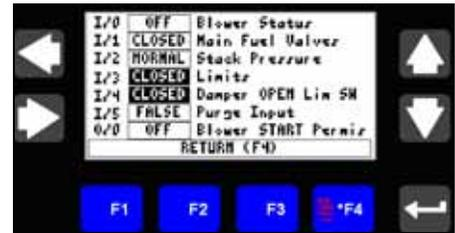

Figure 3-20 Monitor I/O Screen
The Monitor I/O screen (**Figure 3-20**) shows on one screen the current status of all of the discrete I/O wired to the System. The primary purpose of the screen is as a troubleshooting tool and also to support System startup and commissioning.
There are five (5) inputs (I/0 thru I/5) and one (1) output (O/0). The current status of each point is shown with a text message. For example in **Figure 3-20** Blower Status is displayed as OFF and when the Blower starts, the text message will change to ON.